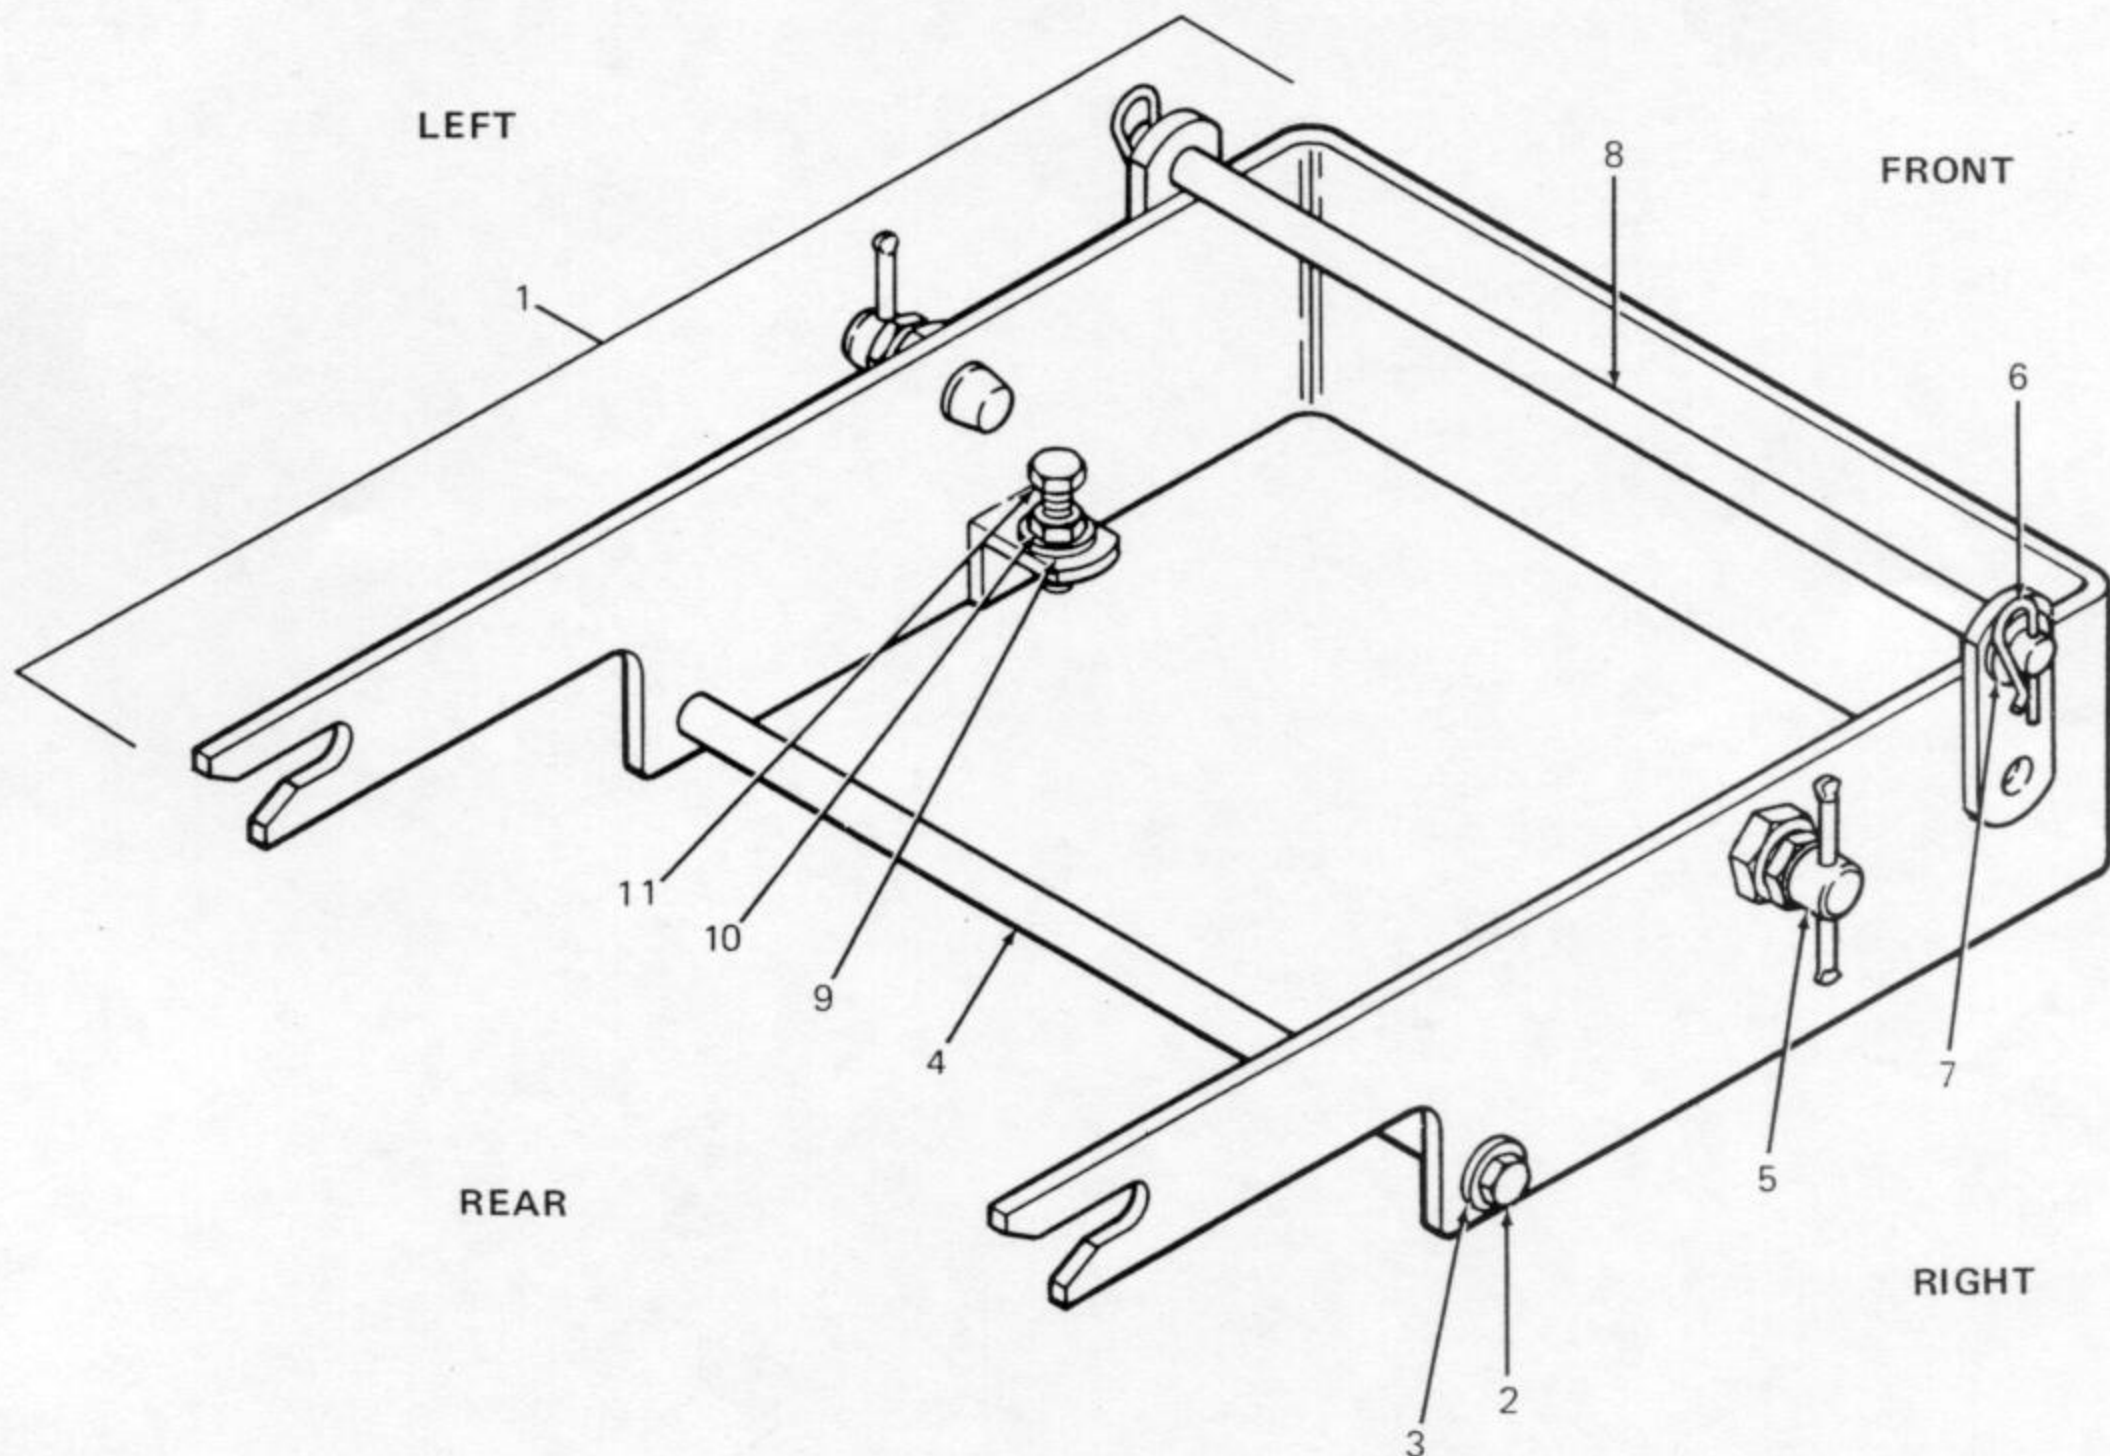

Figure 1
Before beginning installation, refer to Figure 1 to familiarize yourself with the parts and nomenclature of the Front Weight Bracket Kit.
2. Stop bolt (11, Figure 1) should be screwed down as far as possible. If not, loosen jam nut (10), and turn stop bolt down.
3. Position left and right side threaded pins (5) so that they are flush with the inside of the bracket.
5. Slide the Front Weight Bracket Kit onto the tractor frame so that the rear of the bracket engages the tractor frame shoulder bolts, and the carriage bracket control rod (4) engages the latch receiver and locks into place.
7. Loosen jam nuts (10) and turn stop bolts (11) until they touch the frame. Tighten jam nuts (10).
1. Remove the hairpin cotter (6, Figure 1) and flat washer (7) from the right or left side of the Front Weight Bracket Kit, and remove the rod (8).